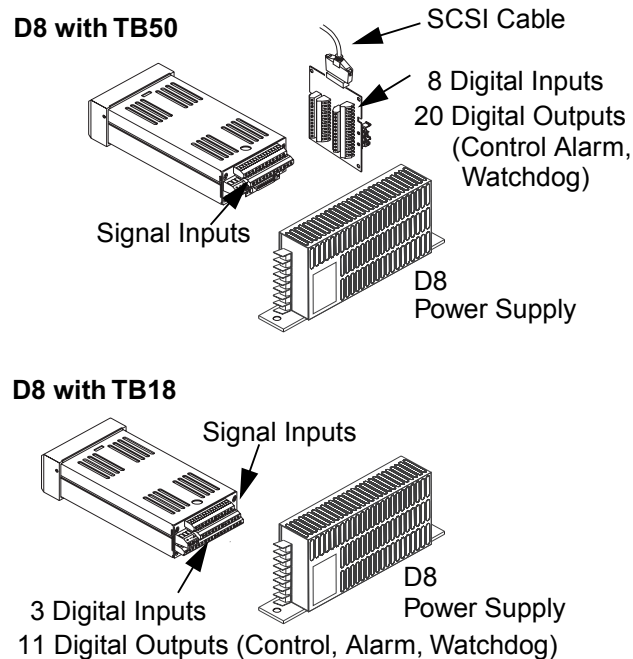
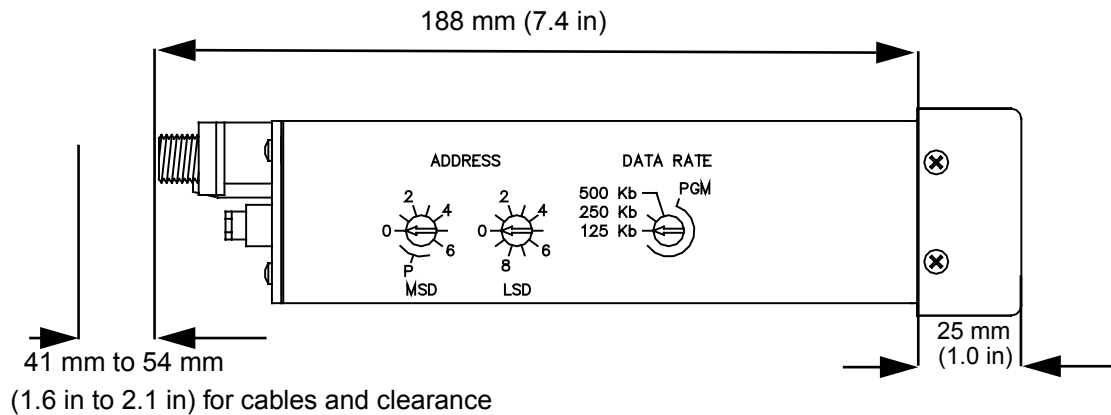
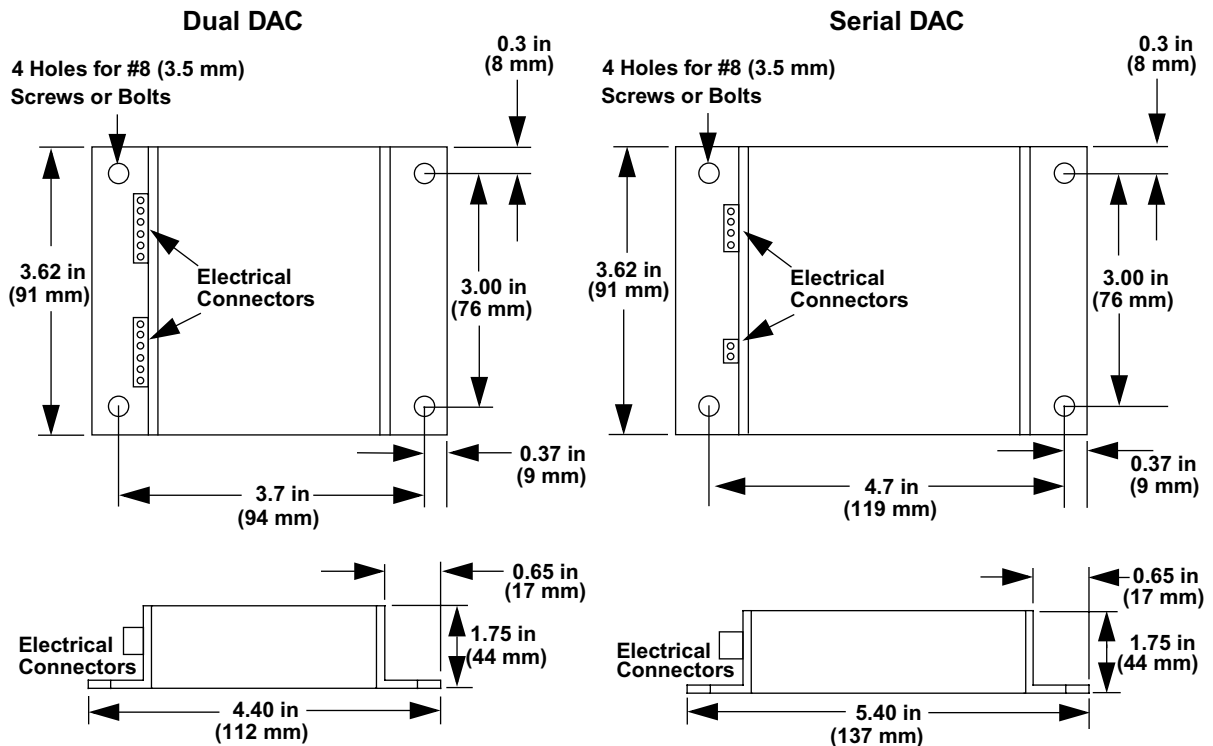

Figure 2.1 D8 System Components
Figure 2.2 Module Dimensions and Clearance
Figure 2.10 Dual DAC and Serial DAC Dimensions
You may have received one or more of the following components. See Figure 2.1 on page 12 for D8 configuration information.
Figure 2.1 shows typical installations of the controller with the TB50 and the TB18 terminal blocks. The type of terminal block you use greatly impacts the layout and wiring of your installation site. See Figure 2.2 to Figure 2.10 to determine potential space requirements.
41 mm (1.6 inches) for a right-angle DeviceNet connector and SCSI connector. Refer to Figure 2.2.
2. Mark and drill four holes for screw mounting. Holes accommodate #8 (3.5 mm) screws. See Figure 2.10 for screw locations. Install the unit with the four screws.